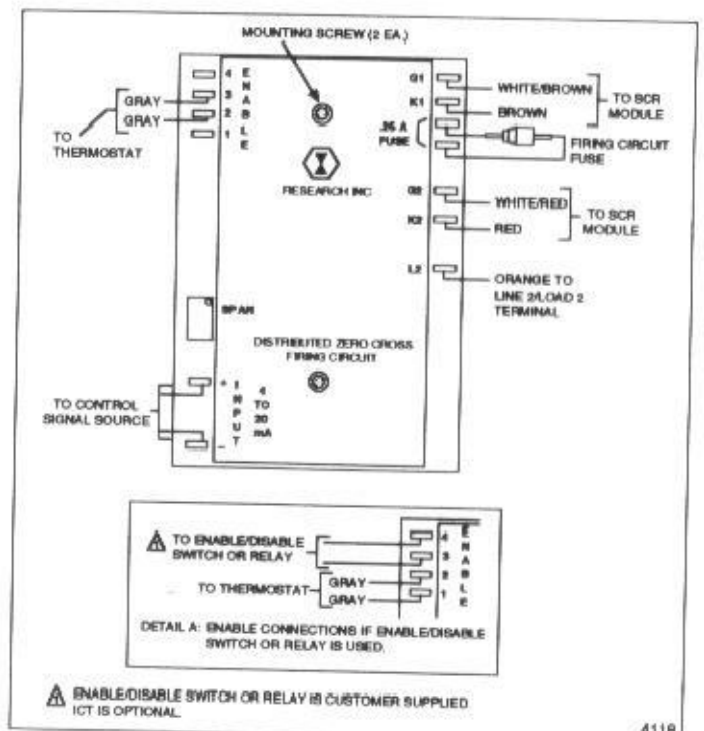
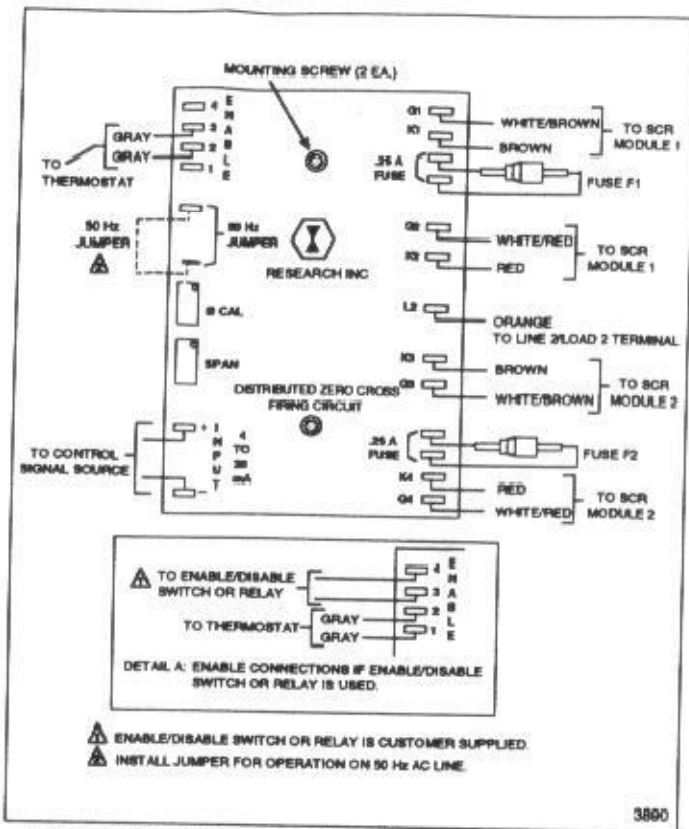

Figure 5-14. Firing circuit module connections, model 664D.
Figure 5-15. Firing circuit module connections, model 664E.
3. Remove the firing circuit fuse from its holder (see figure 5-14 for 664D or figure 5-15 for 664E) and install a replacement.
4. Note the locations of all push-on lugs on the firing circuit module (see figure 5-14 for 664D or figure 5-15 for 664E). Then disconnect them from the firing circuit module.